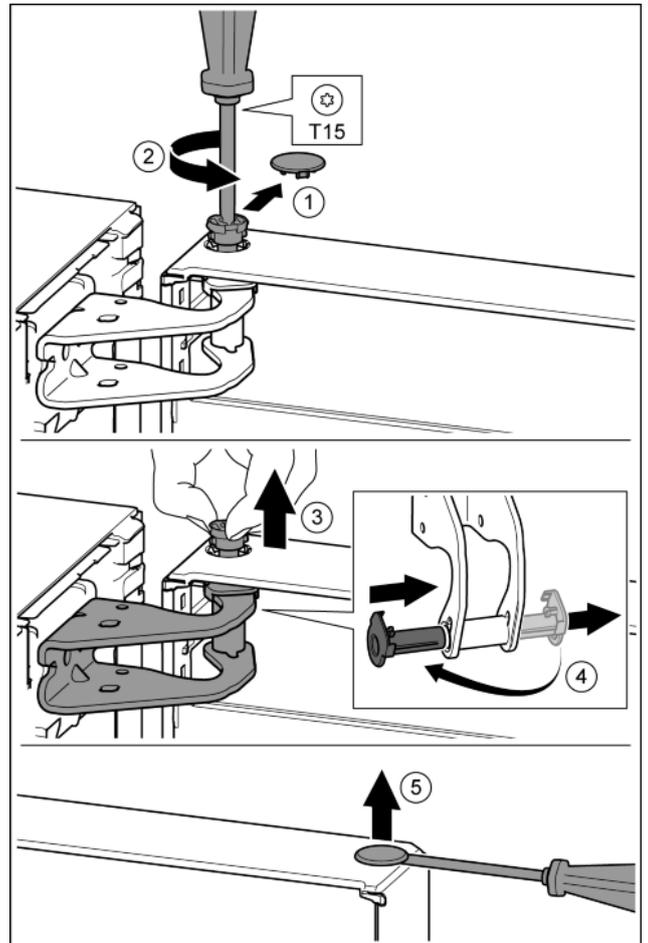

Fig. 9
- ▶ Carefully remove the safety cover. Fig. 9 (1)
- ▶ Undo the bolt a little with a T15 screwdriver. Fig. 9 (2)
- ▶ Hold the door and remove pins with your fingers. Fig. 9 (3)
- ▶ Pull the bearing bush out of the guide. Insert from the other side and click into place. Fig. 9 (4)
- ▶ Carefully lift the plugs out of the door bearing bush with a slotted screwdriver and remove. Fig. 9 (5)